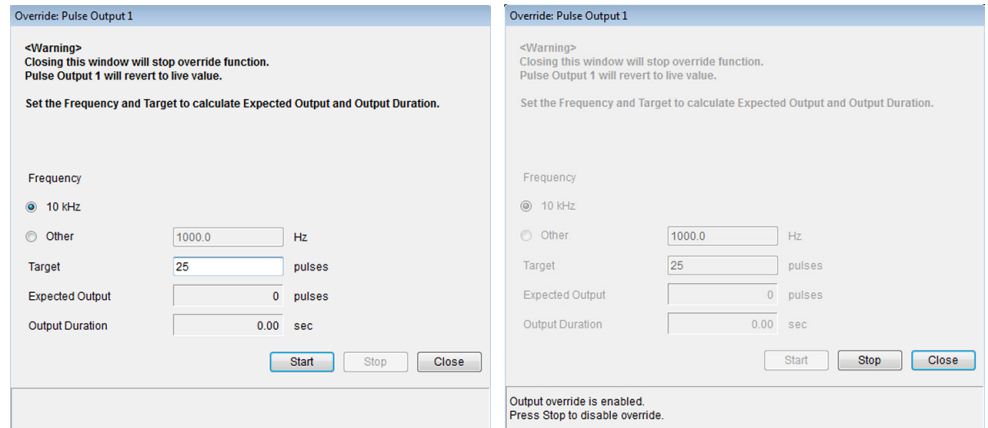

Figure 4.6—Override: Pulse Output before simulation (left) and during simulation (right)
- Click **Diagnostic/Service>Loop Test>Override: Pulse Output #**. The *Override: Pulse Output #* dialog (Figure 4.6, left) will appear.
- Click **Start** to begin the simulation (Figure 4.6, right). Note that the secondary device should read the same frequency (Hz) as specified in the *Override: Pulse Output* dialog.